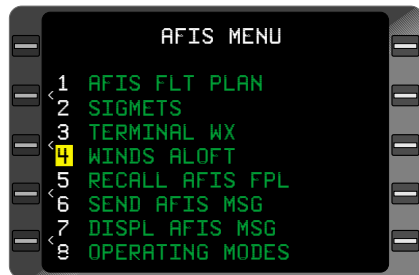

Figure 7-59
- Line Select Key - DEPRESS to position cursor over **WINDS ALOFT**. (Figure 7-59)